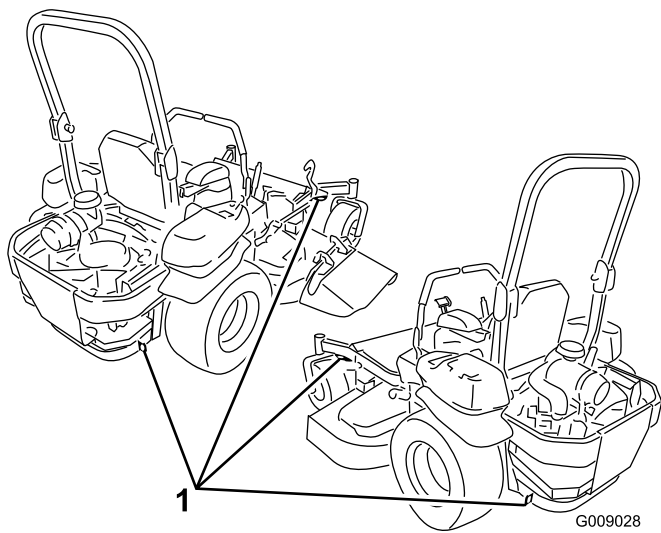

Figure 40
5. Use the metal tie down loops on the machine to securely fasten the machine to the trailer or truck with straps, chains, cable, or ropes (Figure 40).